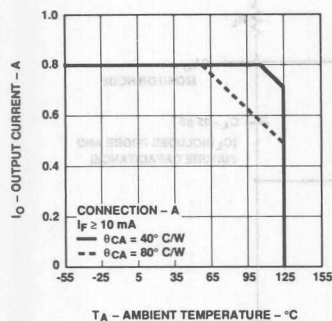
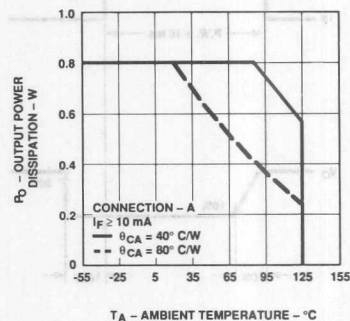

Figure 2. Maximum Average Output Current Rating vs. Ambient Temperature.
Figure 4. Output Power Rating vs. Ambient Temperature.
Average Output Current – Figure 2
Average Output Power Dissipation – Figure 4	800 mW [2]
- For rating, see Figure 4. The output power  $P_O$  rating curve is obtained when the part is handling the maximum average output current  $I_O$  as shown in Figure 2.
Rating curves are shown in Figures 2 and 4. Figure 2 specifies the maximum average output current allowable for a given ambient temperature. Figure 4 specifies the output power dissipation allowable for a given ambient temperature. Above  $55^\circ\text{C}$  (for  $\theta_{CA} = 80^\circ\text{C/W}$ ) and  $107^\circ\text{C}$  (for  $\theta_{CA} = 40^\circ\text{C/W}$ ), the maximum allowable output current and power dissipation are related by the expression  $R_{SS} = P_O(\text{max})/(I_O(\text{max}))^2$  from which  $R_{SS}$  can be calculated. Staying within the safe area assures that the steady-state junction temperatures remain less than  $150^\circ\text{C}$ . As an example, for  $T_A = 95^\circ\text{C}$  and  $\theta_{CA} = 80^\circ\text{C/W}$ , Figure 2 shows that the output current should be limited to less than 610 mA. A check with Figure 4 shows that the output power dissipation at  $T_A = 95^\circ\text{C}$  and  $I_O = 610$  mA, will be limited to less than 0.35 W. This yields an  $R_{SS}$  of  $.94 \Omega$ .